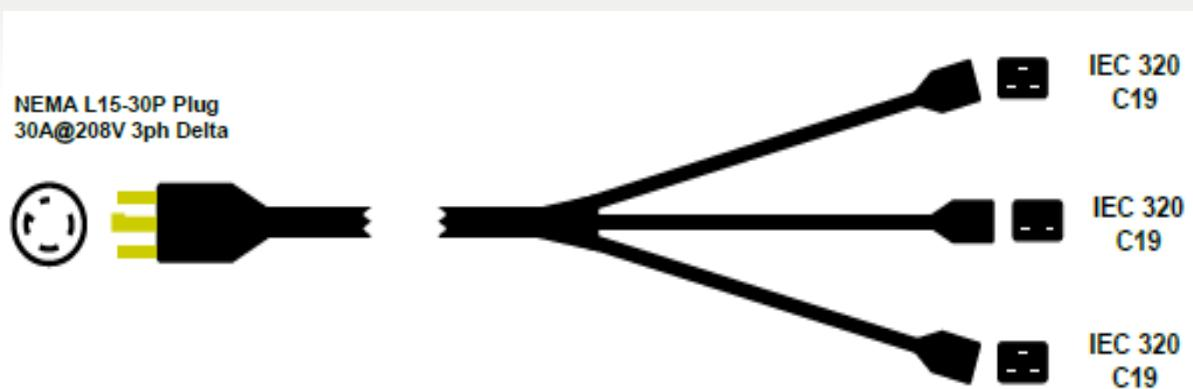

Figure 67: Line cord PN 00D7192 - NEMA L15-30P - (3P+Gnd) to 3x IEC 320 C19
*The 00D7192 (FC A2Y3) cord is a NEMA L15-30P - (3P+Gnd) to 3X IEC 320 C19 4.3m (14ft) 30A @208V 3 Phase Delta line cord seen in Figure 67.